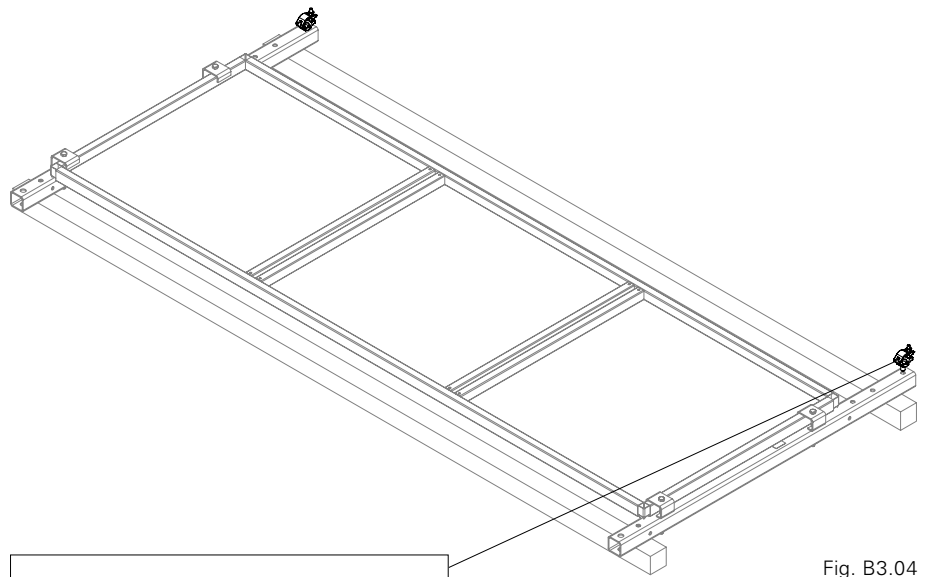

Fig. B3.04
1. Attach one Screw-On Coupling AK 48 (28) to each Guardrail Post RCS-MP (22) using Washer 7089 200 HV, A20 (66) and Nut ISO 4032 M20-8 (67). (Fig. B3.04 + B3.04a)